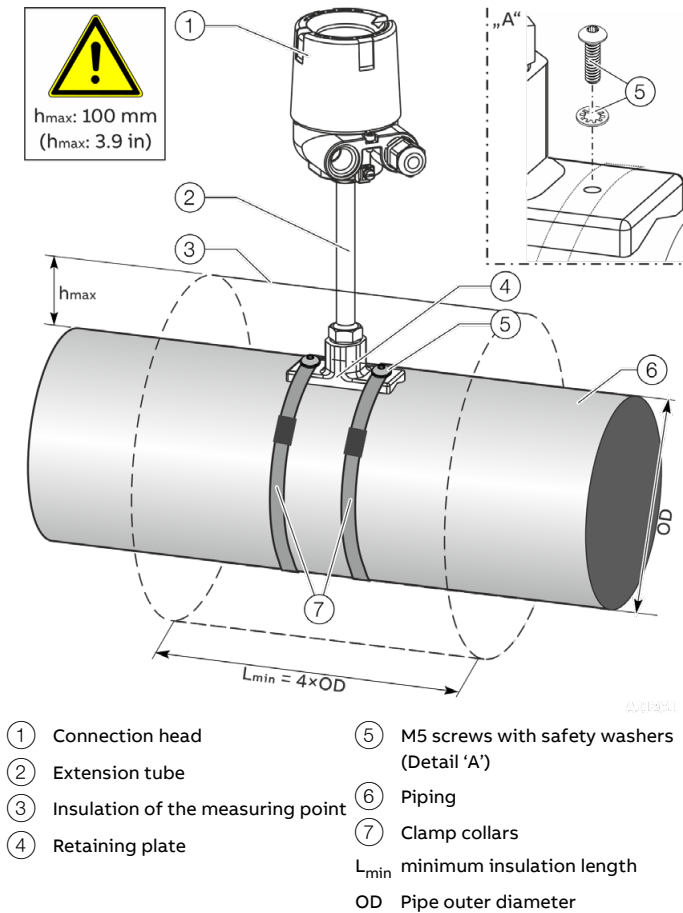

Figure 14: Assembly on piping (example)
Follow the mounting instructions carefully ensuring to loosen the nut on the head before mounting the device (see **Figure 14** on page 28). This ensures that the contact sensor tip will not get damaged or bent and that a good and repeatable contact of the sensor is made once the final tightening of the head is completed.
Insulation of the piping around the measuring point is recommended for any installation to ensure that the pipe surface temperature correlates to the process temperature without convective losses to the environment. Ambient conditions like rain will affect the pipe surface temperature and the corresponding relation to the true process temperature. Typical insulation should be at least $2 \times$ outer diameter (OD) of the piping on either side of the sensor mounting position with a thickness of at least 3 cm (see **Figure 14**). Mineral wool or particle foam (PET) based insulations are typical forms of insulating material that can be used.
- Insulate measuring point to the height ' h_{\max} ' as presented in **Figure 14** only.